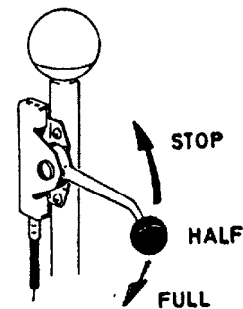

Fig 10
3. Set governor control handle (fig 10) to full speed position (down).
- Set governor control handle to full speed position, ie handle pointing downwards (fig 10).
*With "Sabb" reverse gear:* Engage using light pressure on the gear control handle, fig. 10.